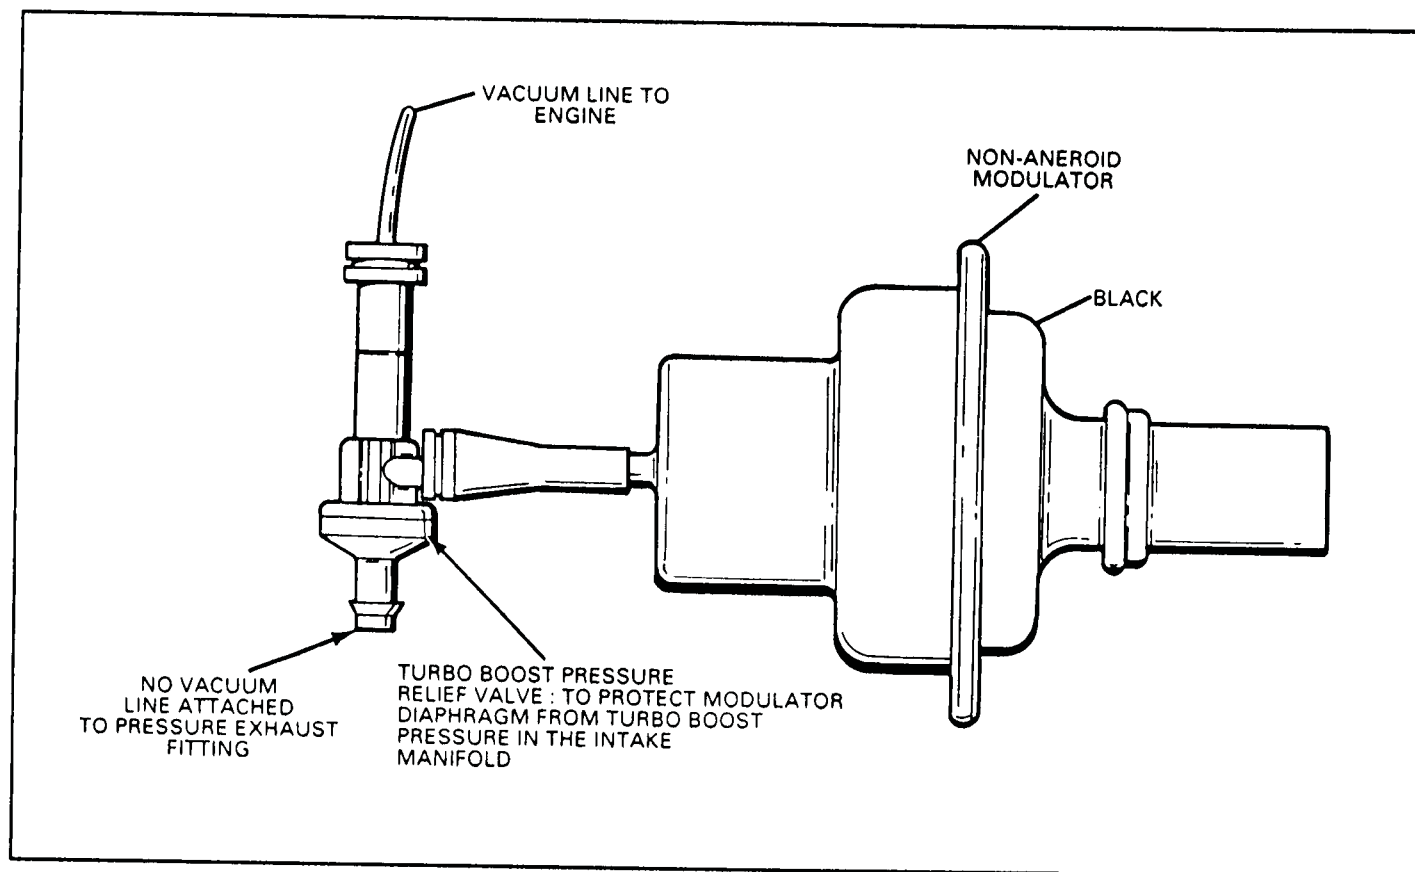

Figure 41
CHANGE: There is now a new Vacuum Modulator, with a Pressure Relief Valve installed between the modulator and the vacuum line to the engine. (See Figure 41).
- (1) VACUUM MODULATOR - Special non-aneroid modulator that is compatible with the 3.1L Turbocharged Engine ONLY. The transmission model codes are OLAH, and OYRH, and found in the "W" car.
- (2) PRESSURE RELIEF VALVE - To protect the diaphragm in the modulator from turbo boost pressure in the intake manifold. This is a "One-Way" valve and must be installed as shown in Figure 41.